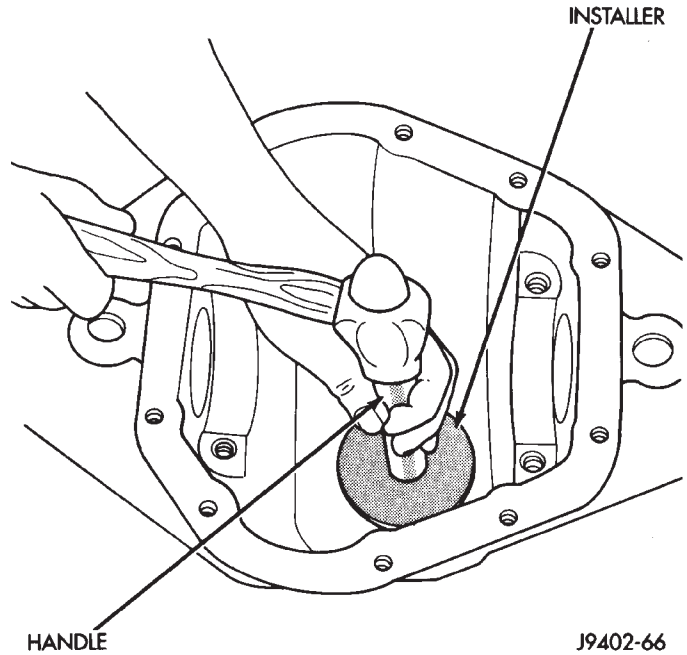

Fig. 30 Pinion Rear Bearing Cup Installation
- (1) Apply Mopar® Door Ease, or equivalent, stick lubricant to outside surface of bearing cup.
- (2) Install the pinion rear bearing cup (Fig. 30) with Installer C-4308 and Driver Handle C-4171.